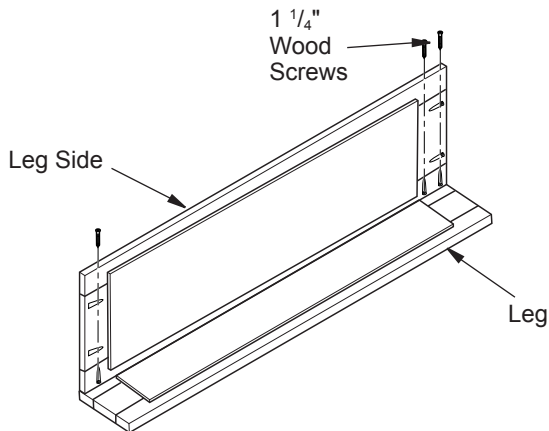

Figure 1 - Assembling Legs
1. Some models require side/corner assembly. For these models, lay leg side on floor. Position leg as shown in Figure 1. Align predrilled screw holes in leg and leg side. Make sure ends are flush. Attach with two or three 1 1/4" wood screws, depending on your model. Repeat for other leg.